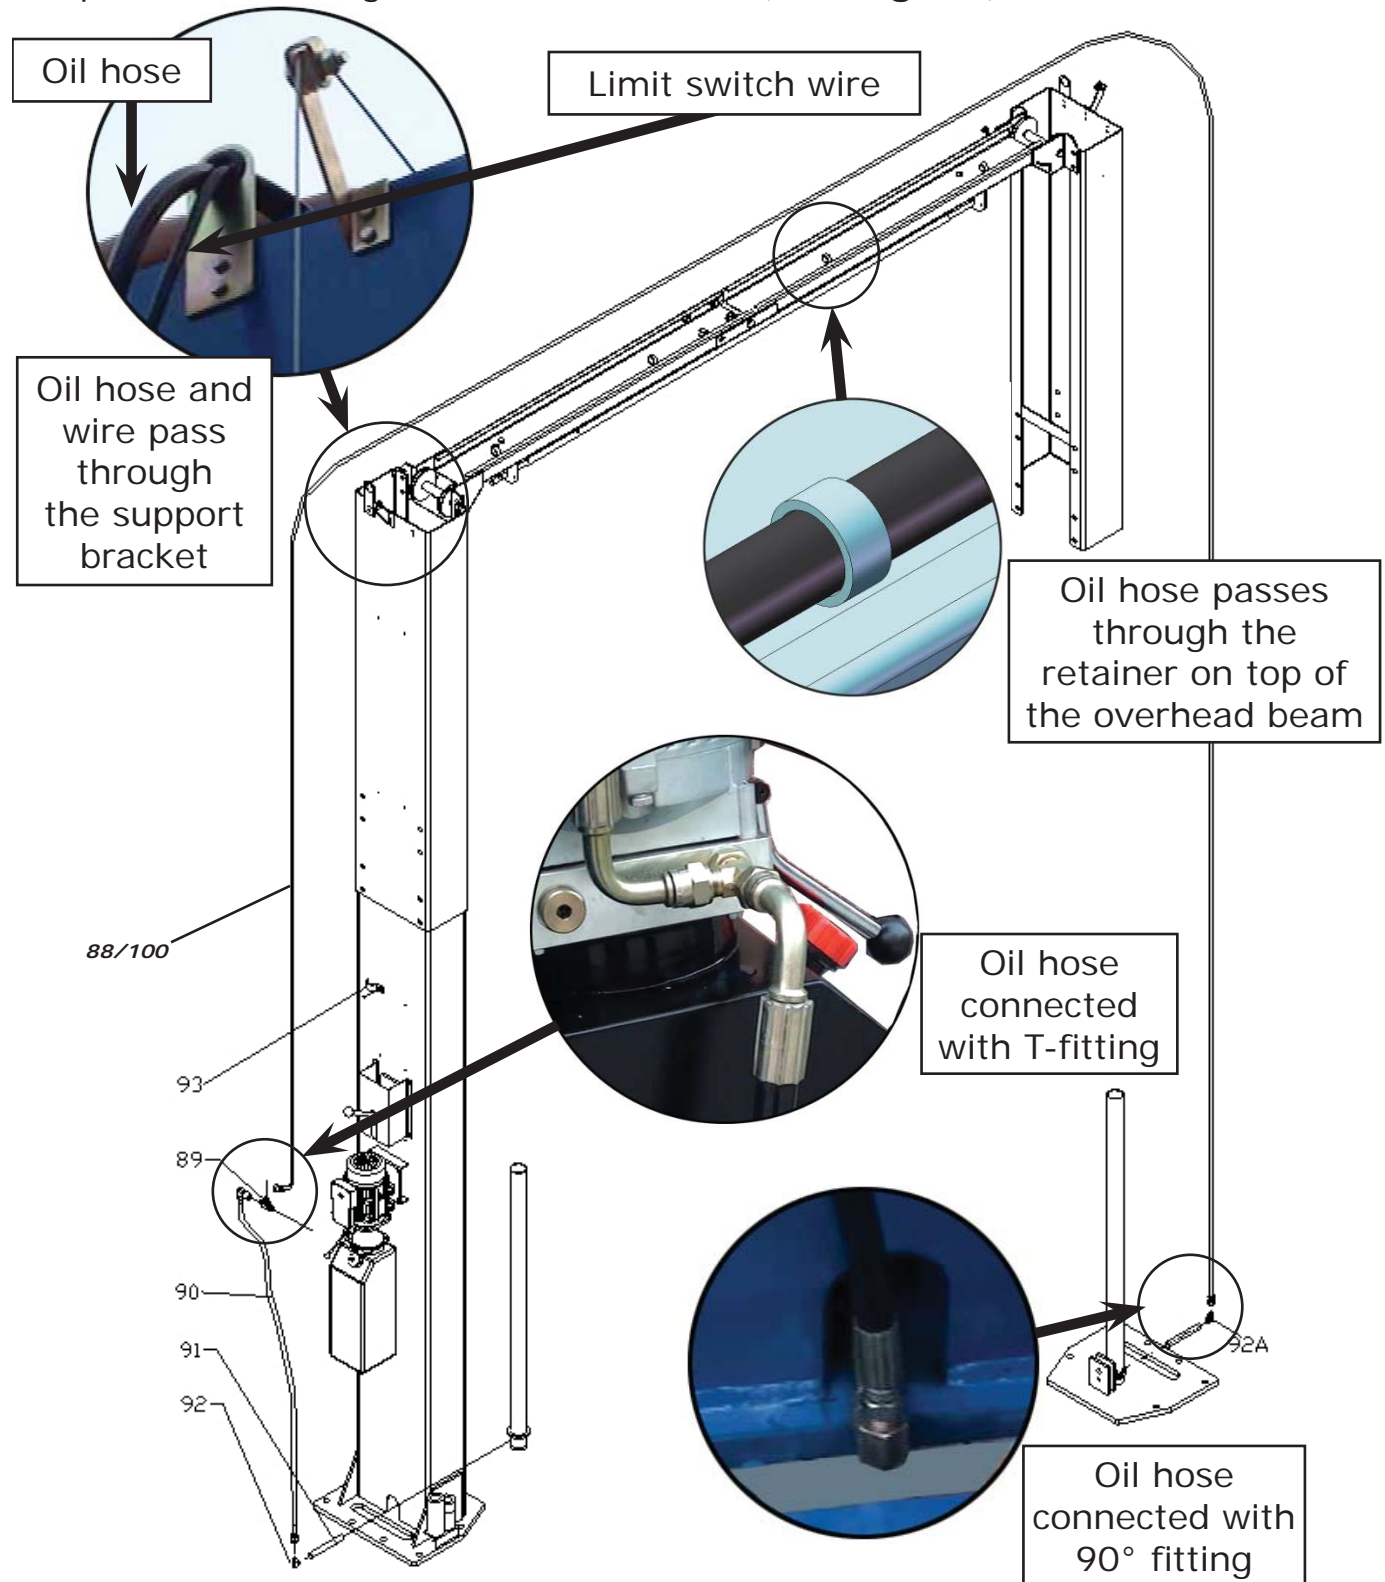

Fig. 32/33
1. At high setting and low setting oil hose connection (See Fig. 32).